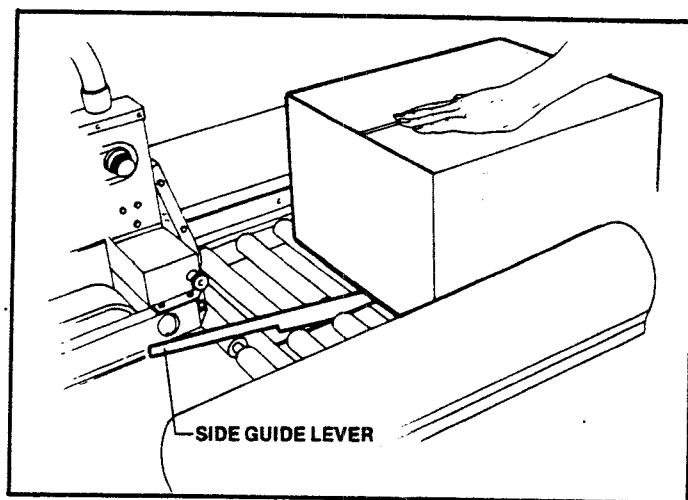

FIGURE 16 - SIDE GUIDE VALVE LEVER
- 1) A valve lever in the center of the infeed roller conveyor actuates movement of the side guides. When the operator pushes a box onto the infeed conveyor, as shown in figure 16, the lever is depressed causing the air cylinder powered side guides to move inward, therefore centering the box.
- 2) Once the box is centered by the side guides, the operator pushes the box against the valve lever on the top taping head, as shown in figure 16, causing the top taping head to be raised by two air cylinders. The top taping head will continue to rise above the box height so the operator can insert the box underneath the top taping head drive belts.